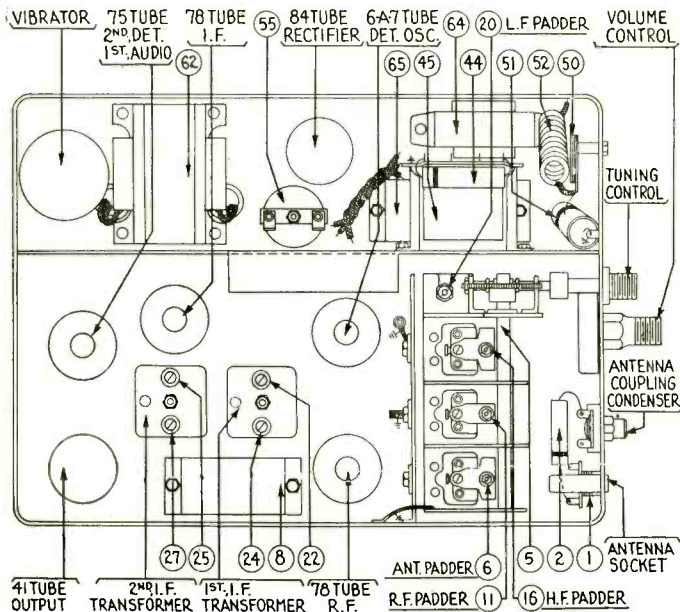

Fig. 2. Sub-chassis of the Philco Model 816 receiver, giving locations of the r-f and i-f trimmers and padders.
i-f transformer for maximum reading on the output meter. Then adjust the primary screw padder (22) for maximum reading. See Fig. 2 for location of padders.